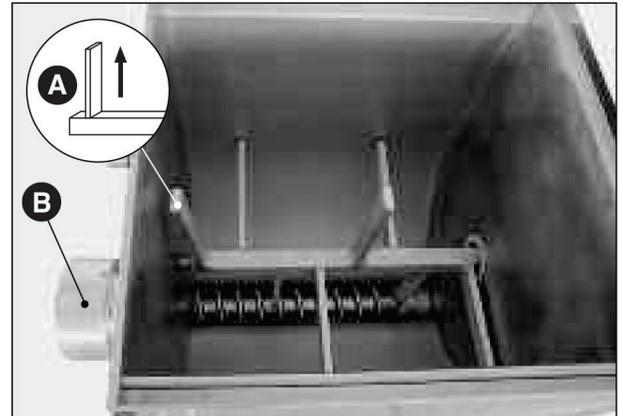

Fig. 29
You have to properly clean all the elements which are in contact with the product (Fig.29) protection cover, pool, mixer, archimedean screw, drawplate, filter, ring nut and knife, when the product is still soft.
- Mixer: make sure the external shovel is in the upper vertical position (Fig.29 A) (only this position allows the disassembling of the piece). Disassemble the mixer by unscrewing the external movable support until releasing the mixer; unthread the shaft from its place and at the same time, rotate the external pin towards the top. If you want to assemble the piece follow these instructions vice versa. Line the central point of the shaft with the peg of the moving support (Fig.34 A); thereafter, screw the support, but without blocking it.